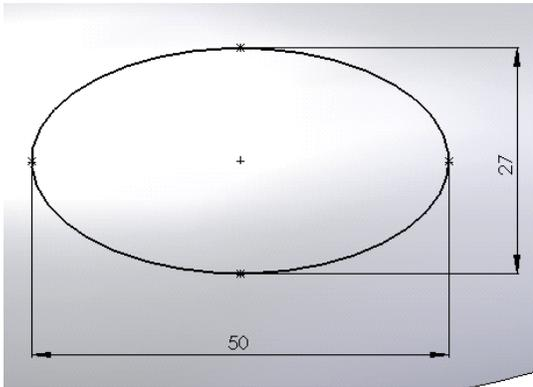

*Figure 15-133 Sketch to be projected*
- g. Create dip on the top surface of the hair dryer, refer to Figures 15-133 through 15-138.
3. Create the sketch as shown in Figure 15-133 and exit the sketching environment.